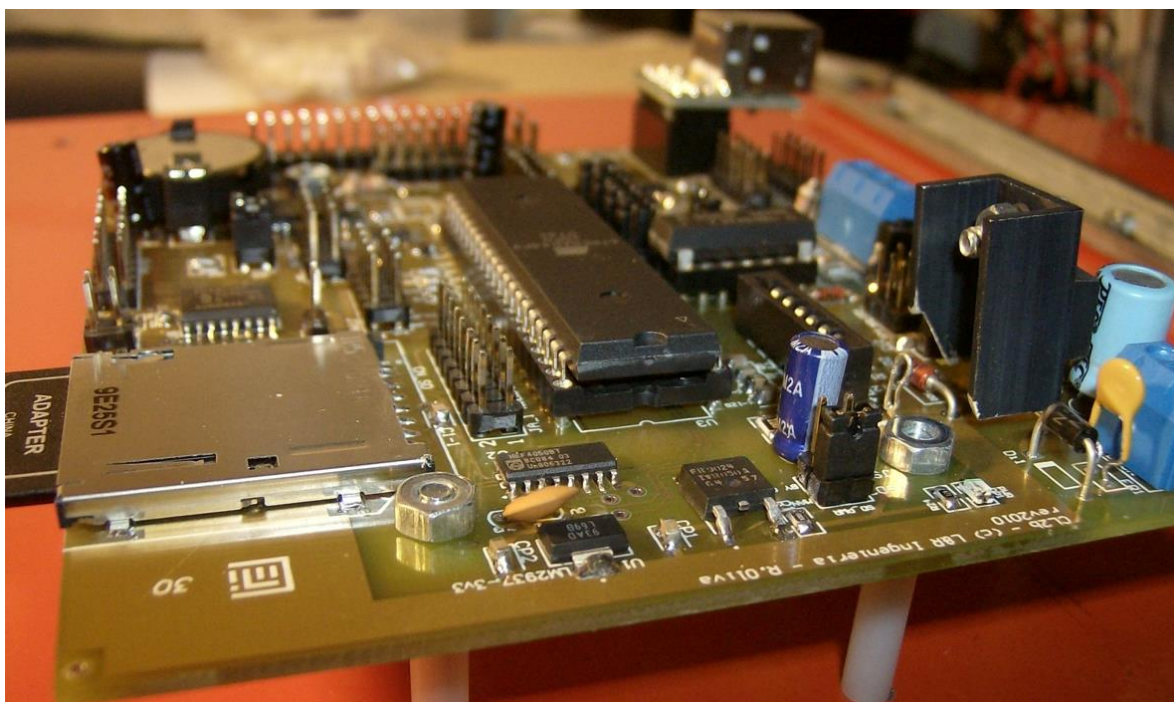

Figure 1 – Photo of CL2bm1 board
The CL2bm1 semi-industrial board module from L&R Ing. (Figure 1) is an Atmel – AVR (now Microchip) based unit, which is usually fitted with the ATmega1284P [ref00] microcontroller @ 14.7456 MHz. It can be programmed in C using the Codevision AVR compiler [ref01], the C/C++ Avr-gcc compiler [ref02] using IDEs such as Microchip Studio [ref03], Microsoft Visual Studio Code with PlatformIO plug-in [ref04] [ref05], or the classical Arduino IDE [ref06]. The latest boards are provided with a pre-loaded, modified Optiboot [ref07] bootloader which works through the COM0 port (if native RS232 is available) or via a standard RS232-USB adapter. In-circuit programming is also possible through a standard AVR 6-pin connector and AVRISP Mkii [ref08] or compatible USB programmers. The board is not fully Arduino-compatible in pinout but a great number of functions and libraries work on it “out of the box”. A TCXO DS32kHz chip keeps an accurate timing coupled with a standard PCF8563 Real Time Clock IC. A low-dropout LM2937-5 regulator supplies power for the circuit from an external source between 7 and 25 Vdc. Consumption is typically 0.05 A @ 12.8 V. A complete schematic diagram can be downloaded from [ref21] <https://github.com/LyRIng/CL2bm1/tree/master/schem>